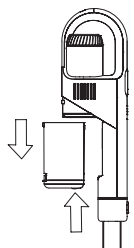
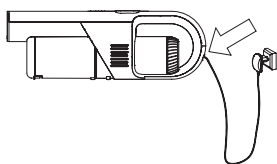
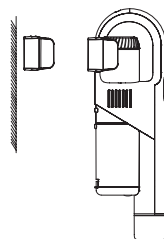

Рис.1
Рис.9
Рис.10
- Insert the plug of the power supply unit connecting cord into the battery socket of the vacuum cleaner (14), plug the power supply unit into the socket (fig. 9), the operation/charging indicators (3) will light up, the light indicators (3) will show the charging state of the battery.
- At the end of the charging cycle of the battery (14), four indicators (3) will light up.
- After the end of the charging cycle, insert the vacuum cleaner in the wall-mounted holder (13) (fig. 10).
- Charge the battery (14) at the temperature from +5°C to +35°C.
- If you haven't used the unit for a month or longer, charge the battery (14) completely before using the vacuum cleaner.
- Insert the extension pipe (5) into the air inlet of the vacuum cleaner until the release button (4) clicks (fig. 1 and 2).